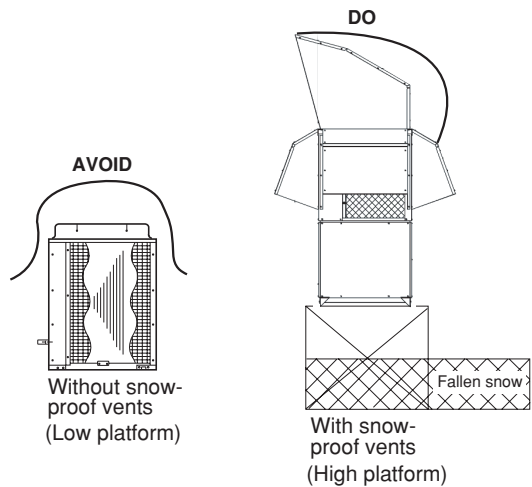

Fig. 2-10
In regions with heavy snowfall, the outdoor unit should be provided with a solid, raised platform and snow-proof vents. (Fig. 2-10)
- a) The platform should be higher than the maximum snow depth. (Fig. 2-10)